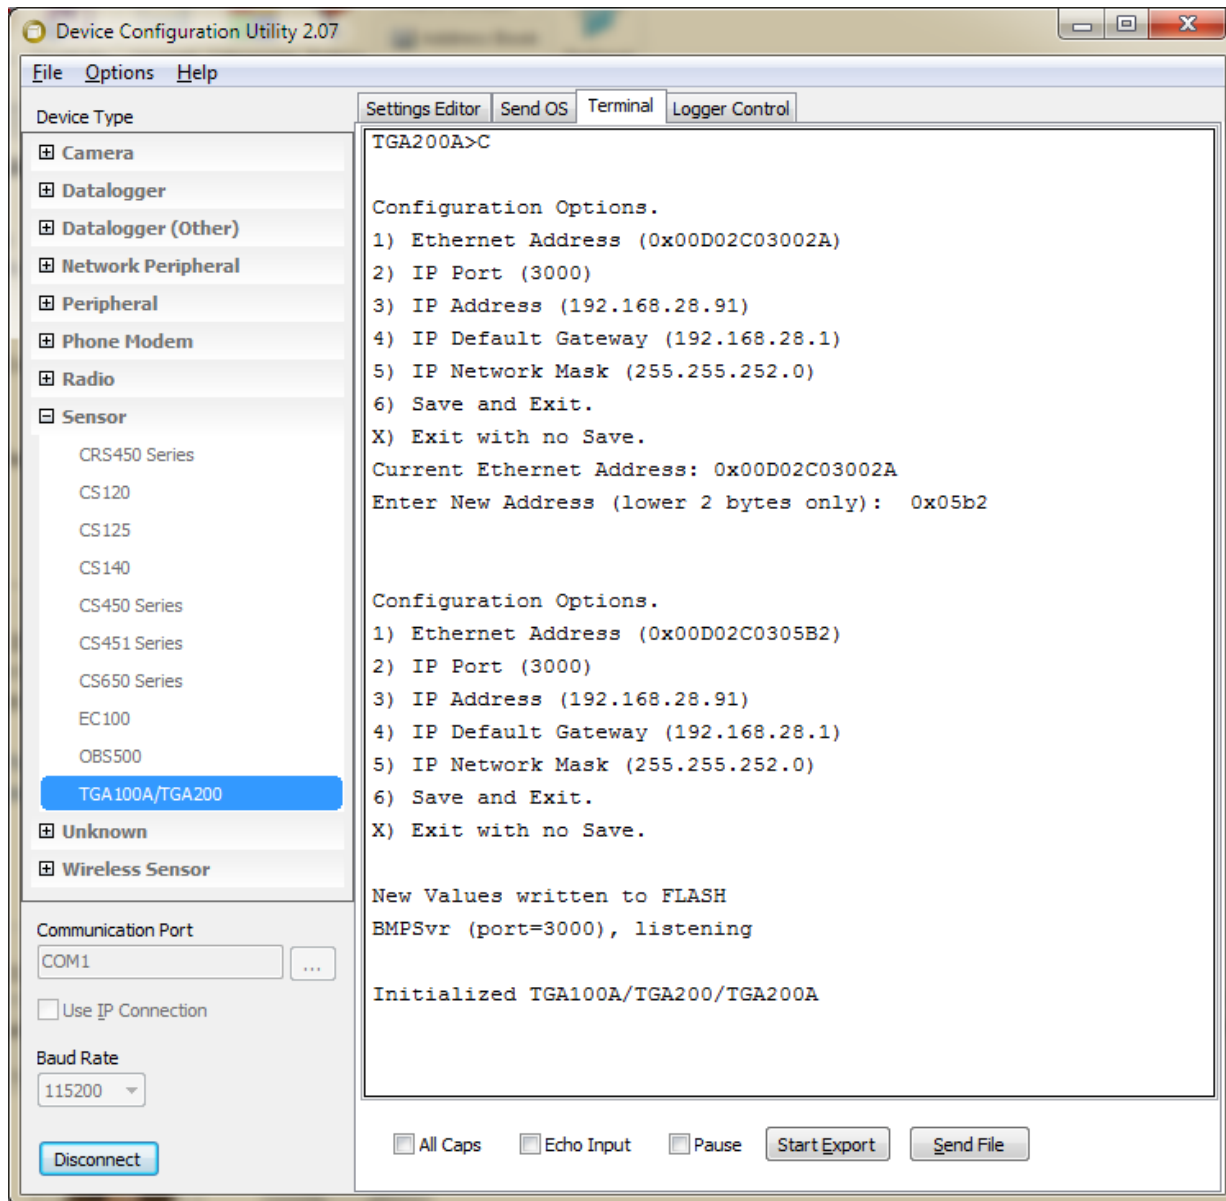

FIGURE 6-20. Device configuration utility Terminal tab
5. Select *Terminal* mode and then uncheck the **All Caps** box at the bottom of the window as shown in in FIGURE 6-20.